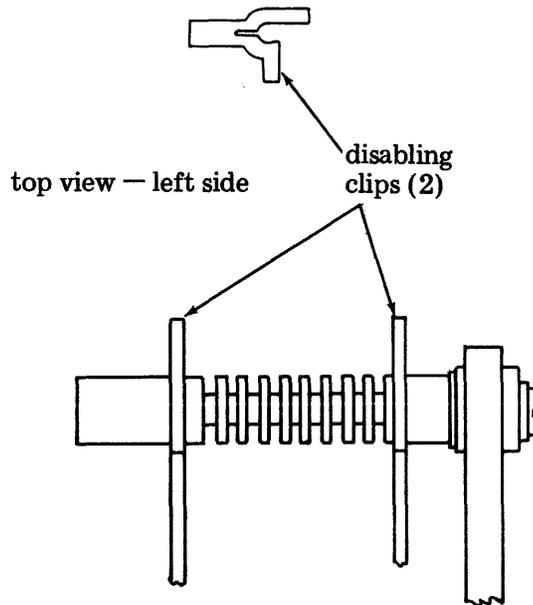

Figure 19 - 38 Perforator Lever Post
5.29 The tape punch is shipped programmed for manual operation. The tape punch has the facility for automatic operation by removing two clips, refer to Figure 19. The controls for manual operation are listed in Table D.